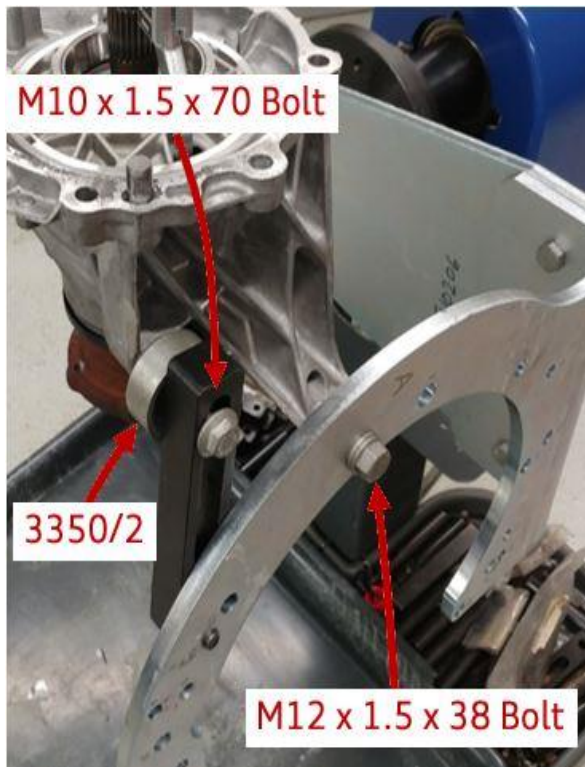
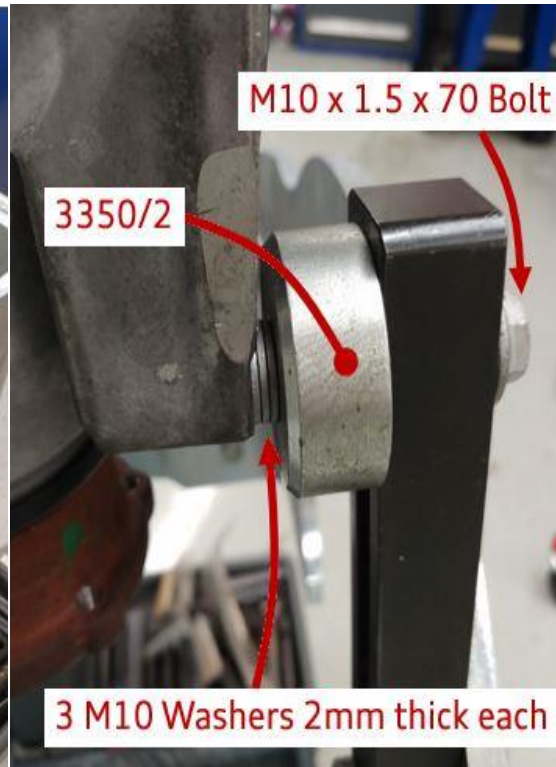

Figure 4. Mounting detail.
Figure 5. Mounting.
5. Mount the side carrier as shown below (Figure 3) to the VAS6095 using T40206, T40206/1A, one long slotted arm from the VAS6095, 3350/2 (Figure 4 and Figure 5), three M10 flat washers 2mm thick each (Figure 5), one M10 x 1.5 x70 bolt (Figure 4 and Figure 5), and one M12 x 1.5 x 38 bolt (Figure 4).